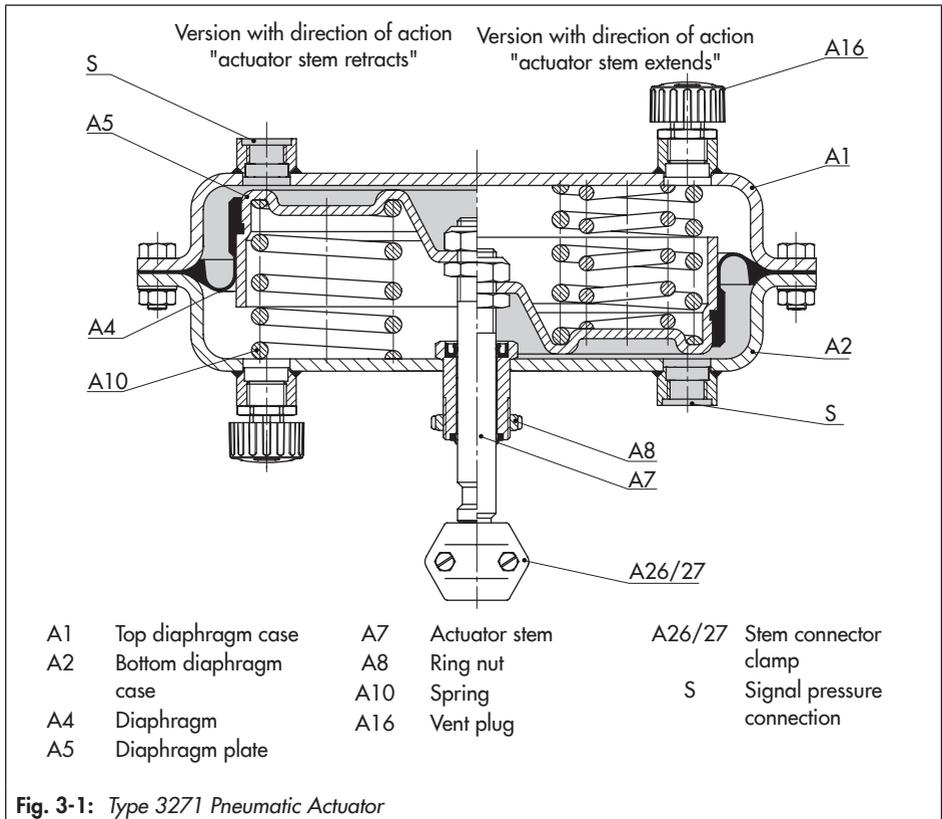

Fig. 3-1: Type 3271 Pneumatic Actuator
The actuator mainly consists of two diaphragm cases (A1, A2), the diaphragm (A4) with diaphragm plate (A5) and springs (A10) (see Fig. 3-1).
In the "actuator stem extends" version, the signal pressure is routed through the bottom signal pressure connection (S) to the bottom diaphragm chamber and moves the actuator stem (A7) upward opposing the spring force (see Fig. 3-1, right).
In the "actuator stem retracts" version, the signal pressure is routed through the top signal pressure connection (S) to the top diaphragm chamber and moves the actuator stem (A7) downward opposing the spring force (see Fig. 3-1, left).